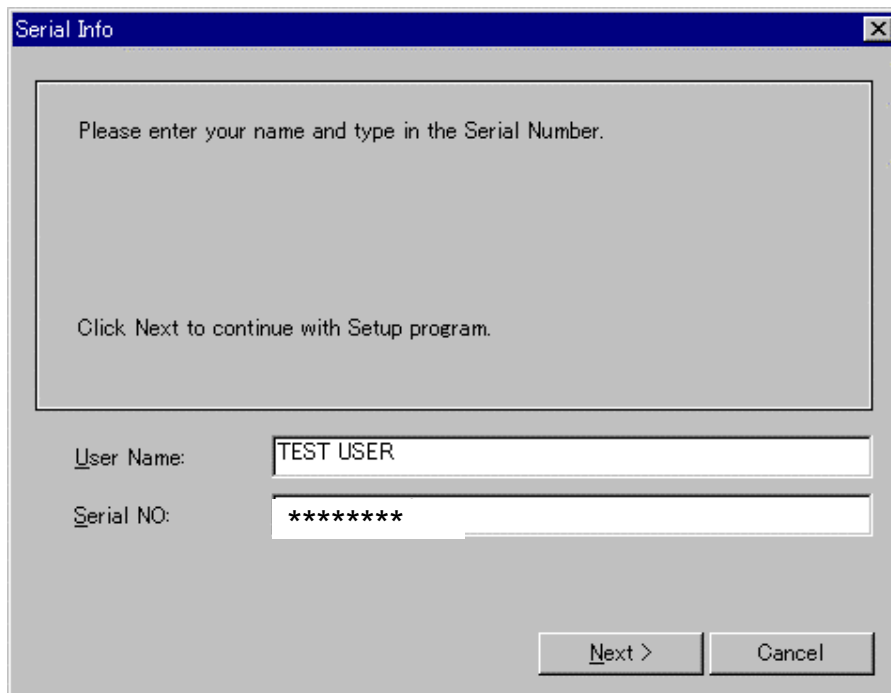

Fig. 3 User Information Registration / Authentication
- (3) Click [Agree] to display the user information registration screen shown in Fig. 3.